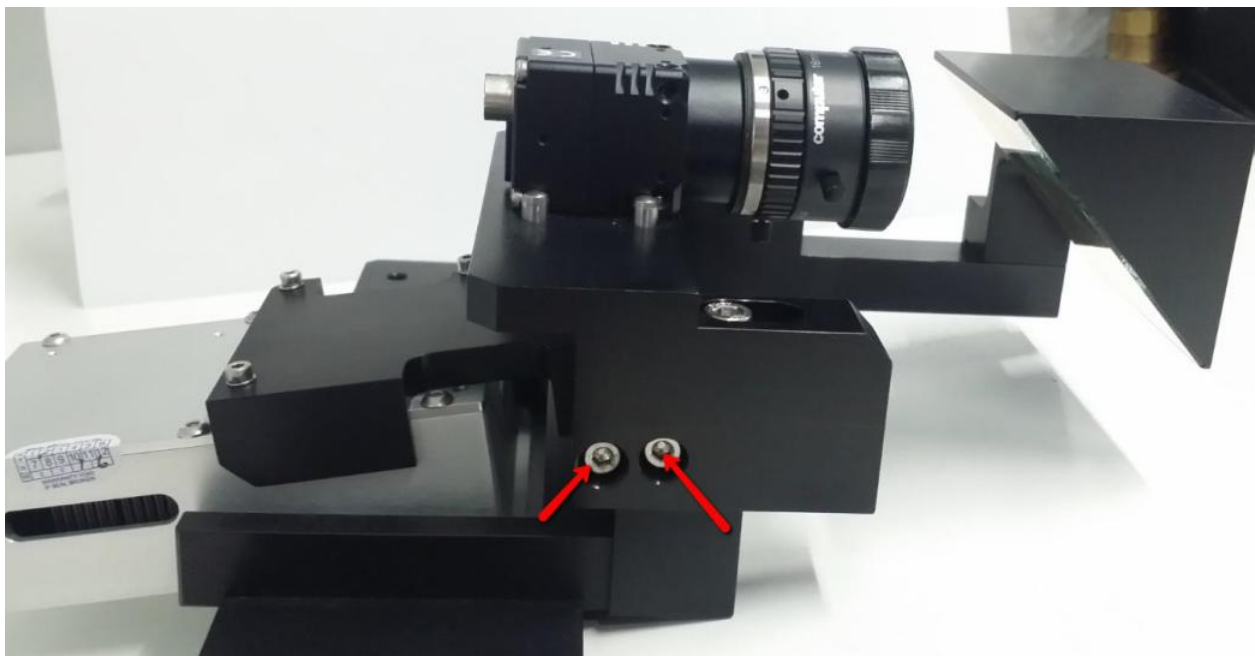

Figure 8 Projector Bracket removal
2. Loosen 2 x Screws (M4 X 20) and remove the entire projector bracket as below Figure 8.
- Assemble the entire projector bracket to entire module as Figure 8.